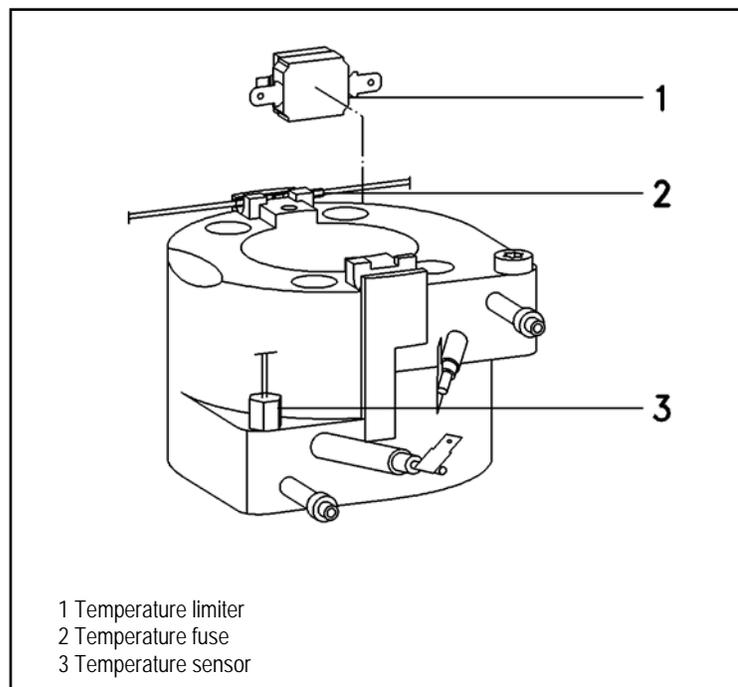

Figure 5-29: CVA4070 Flow-thru Heater Temperature
12. Remove the temperature sensor, temperature limiter and temperature fuse from the flow-thru heater (Figure 5-29, Items 1 – 3).